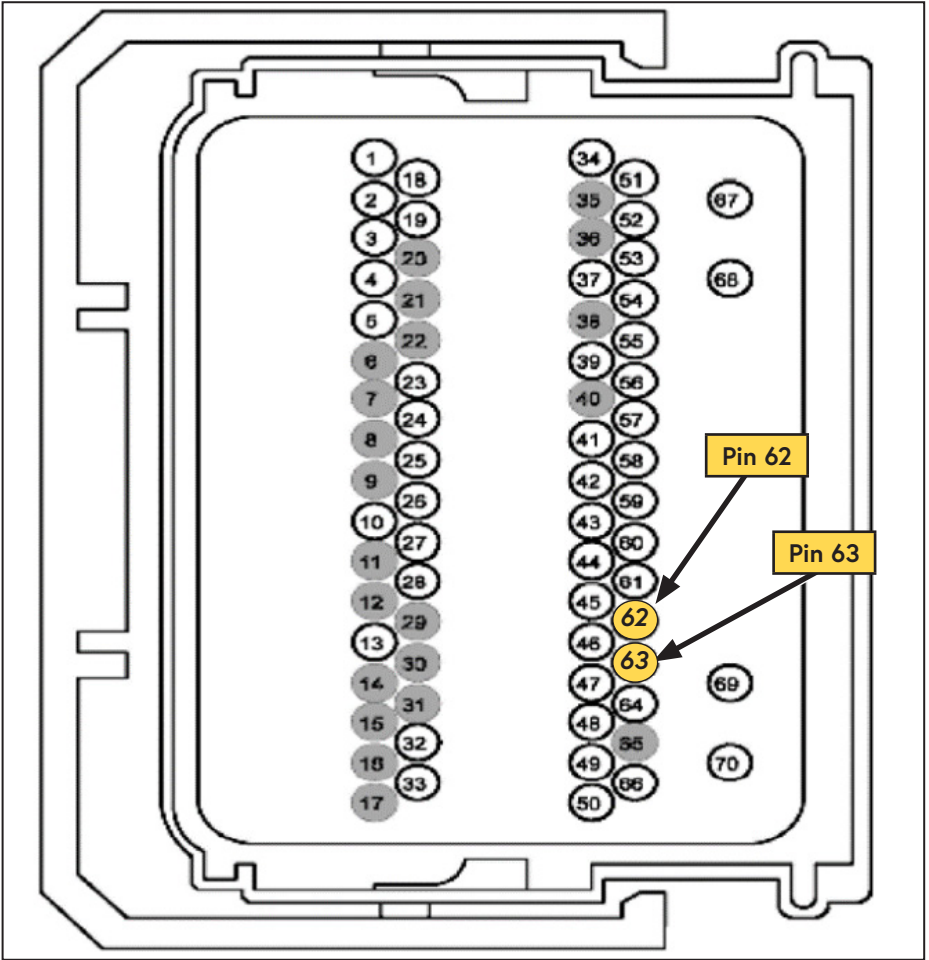

Figure 74 — 2015 Model year C175E connector
- Locate the yellow wire with the violet stripe at pin 62 and the green wire with the white stripe at pin 63 (Figure 74).